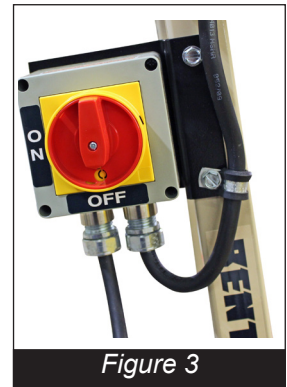

Figure 3
- Make sure the machine is clear of walls and/or obstructions, tilt it back slightly to shift the weight onto the wheels, then turn the switch to ON. (Figure 3)